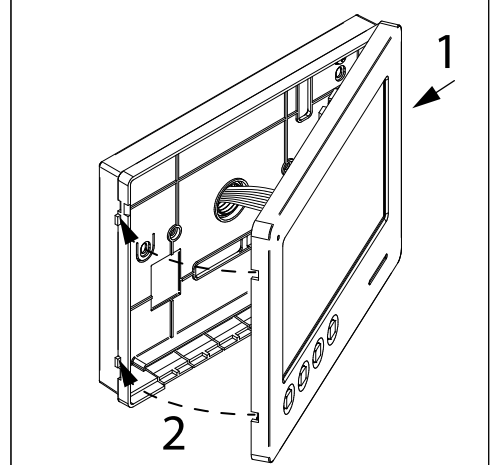

Fig. 6
5. Once testing is complete and all the necessary adjustments are made, close the unit as shown in **Fig. 6**: first hook in the right part and then the left part until you hear a click.